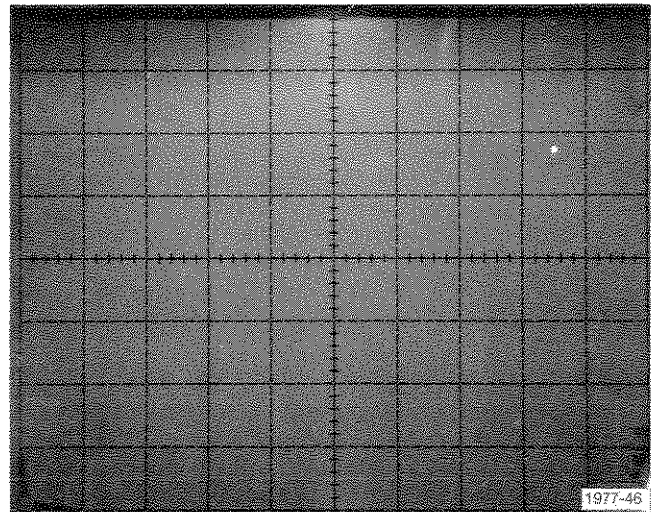

Fig. E-10. Graphing + supply current.
- Check the resulting display (see Fig. E-10) against the manufacturer's specification sheets.